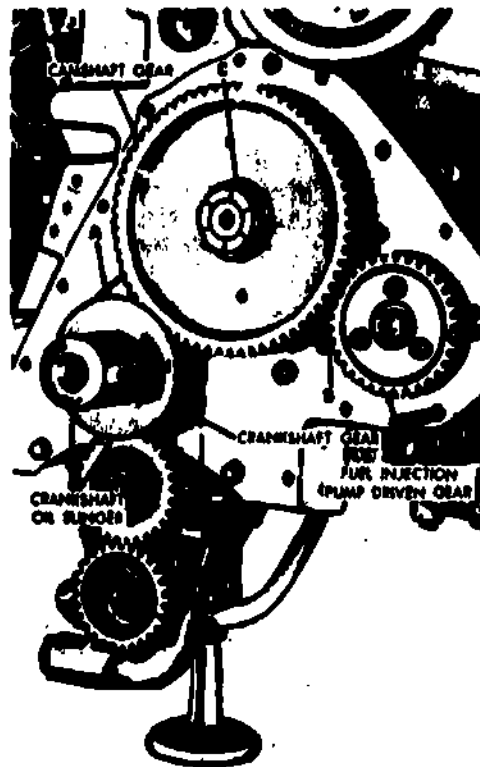

Fig 3-10. Injector pump driven gear.
- (1) Forward section. The forward section of the pump houses the advance unit. This unit does the same thing as the centrifugal advance unit on a spark-ignition engine distributor does. As the engine is speeded up, the advance unit causes the fuel to be injected earlier in the cycle so that maximum power output can be obtained at any engine speed. The fuel injector pump is connected to the engine at the advance unit end. A gear fastened to the injector pump drive meshes with the engine camshaft gear. The crankshaft gear drives the engine camshaft gear, which in turn drives the injector pump gear. The crankshaft gear and the injector pump gear are the same size so the injector pump is driven at engine crankshaft speed (1:1 ratio) (fig 3-10).